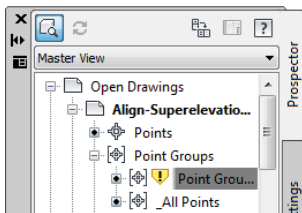

Figure 2-45 The symbol corresponding to the **Point Groups** indicating the out of date point group
The options discussed earlier for editing points are used to edit points of any point group. To access the editing options, expand the **Point Groups** collection in the **Prospector** tab and right-click on the required point group to display a shortcut menu, as shown in Figure 2-45. You can choose the required options from the shortcut menu and edit the points of the point group as discussed earlier.
A point group is called out of date if you add or delete points, or modify properties such as elevation or description of points included in the point group. The out of date point groups are indicated by a yellow symbol displayed in the **Prospector** tab on the left of the point group name, as shown in Figure 2-45. The **Point Group - (1)** is out of date as indicated by the symbol on the left. This shows that some changes have been made in the point group.